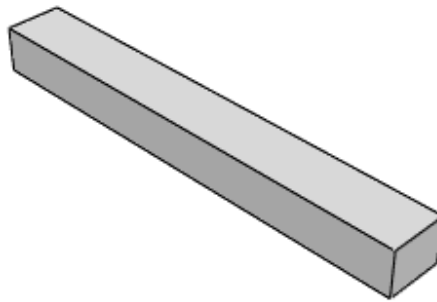

Figure W1-7 Extruded part.
Abaqus/CAE displays an isometric view of the new part, as shown in Figure W1-7. The **Parts** icon in the Model Tree changes to indicate that the model contains one part,  **Parts (1)**.